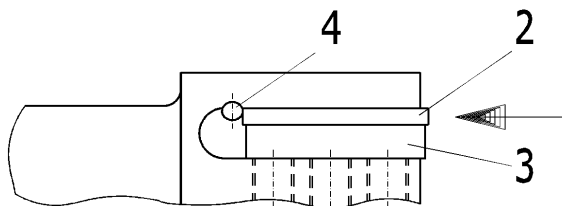

Fig. 2
6. Push slightly the profile knife onto the knife seat and against the positioning pin (4); (see Fig. 2).